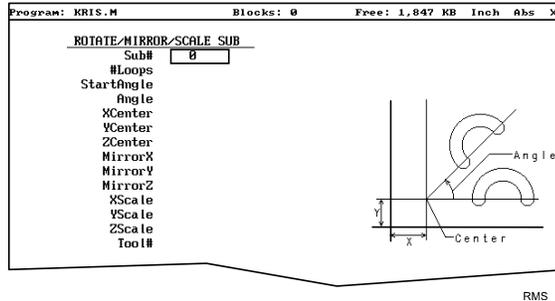

Figure 5-25, ROTATE/MIRROR/SCALE SUB Graphic Menu
2. Press **RMS (F6)**. The **ROTATE/MIRROR/SCALE SUB** Graphic Menu prompts for labeled values. Refer to **Figure 5-25**.